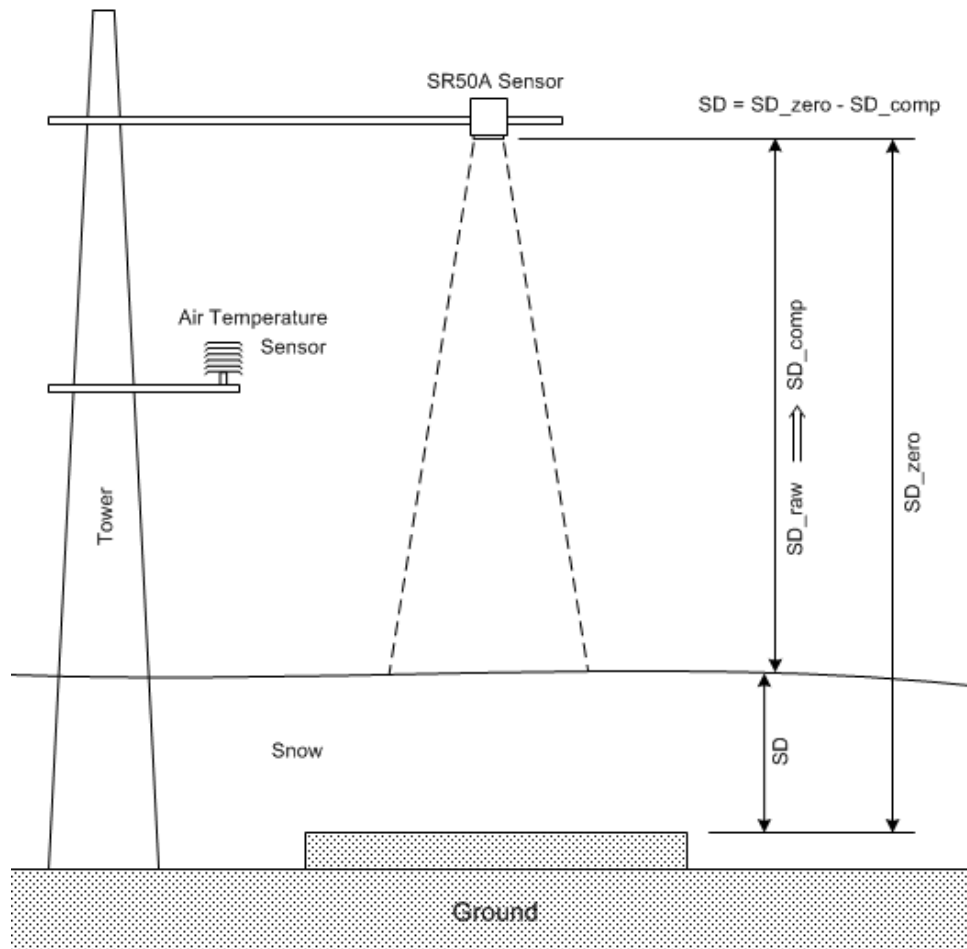

Figure 2: Snow measurement variables and calculations
- SD_comp signifies the temperature compensated distance to the snow as illustrated in Section 5, Figure 2.
Figure 2 depicts a typical SR50A sensor installation.